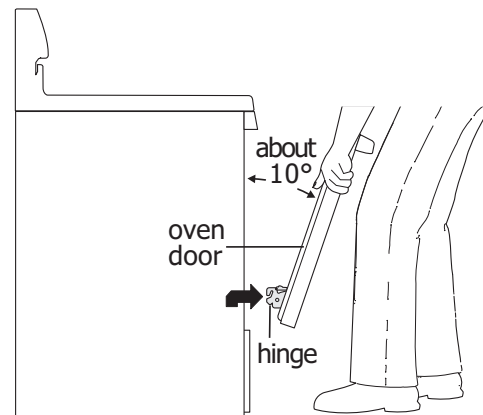

Figure 17: Holding door for removal
3. Firmly grasp both sides of oven door along the door sides. Do not use the oven door handle (Figure 17)
4. Close the door to approximately 10 degrees from the door frame (Figure 17).
1. Firmly grasp both sides of oven door along the door sides. Do not use the oven door handle (Figure 17).